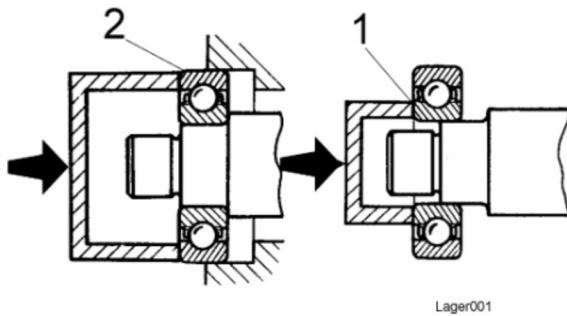

Fig. 6
**When assembling the bearing to the shaft load must only be applied to the inner race 1 (Fig. 6).**
**When fitting the bearing into the housing load must only be applied to the outer race (2).**